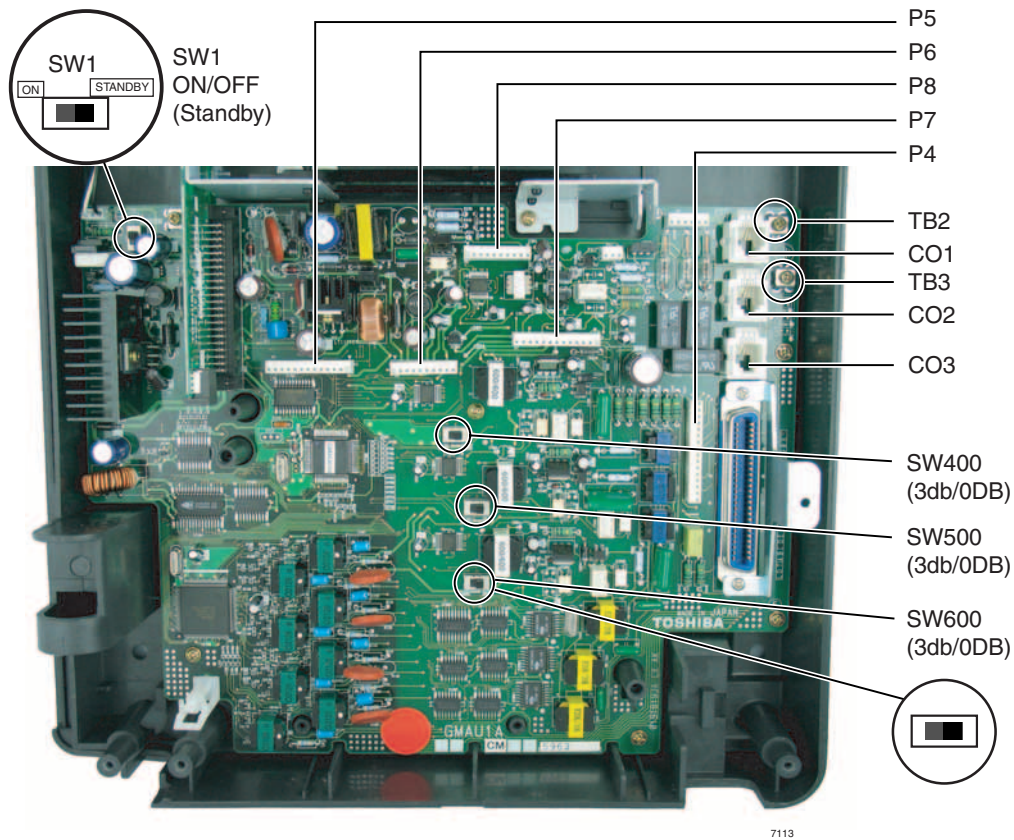

Figure 1-7 GMAU PCB
1. Apply proper settings on the GMAU1A (motherboard Figure 1-7).
The GMAU (shown in Figure 1-7) supports up to 6 CO lines with Caller ID (CLID).